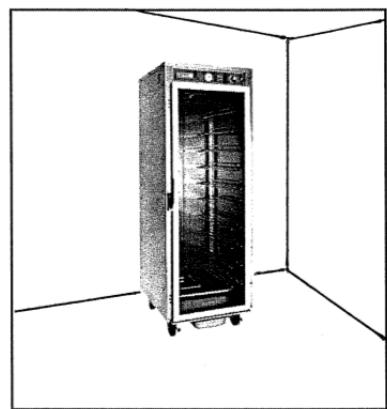

Fig. 4
*The installation location must allow a minimum of 4" clearance for servicing and proper operation. (Fig.4)*